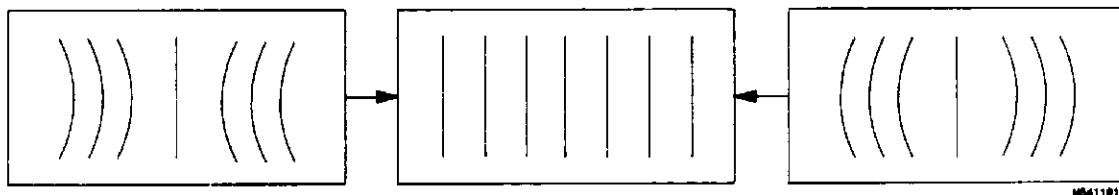

Figure 4-13. PIN AMP Adjustment.
7. Adjust PIN AMP (RV506) on left hand side PC board to eliminate pincushion distortion in the vertical lines of the cross-hatch pattern. See figure 4-13.